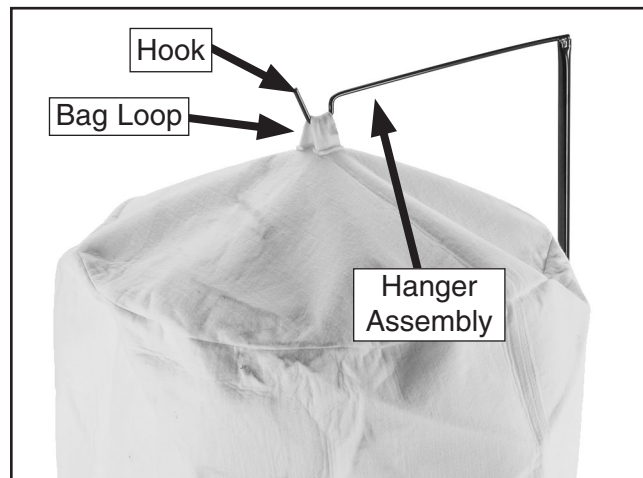

Figure 20. Upper filter bag mounted on hanger assembly.
- Place the loop at the top of each upper collection bag over each hook on the hanger assemblies (see **Figure 20**).